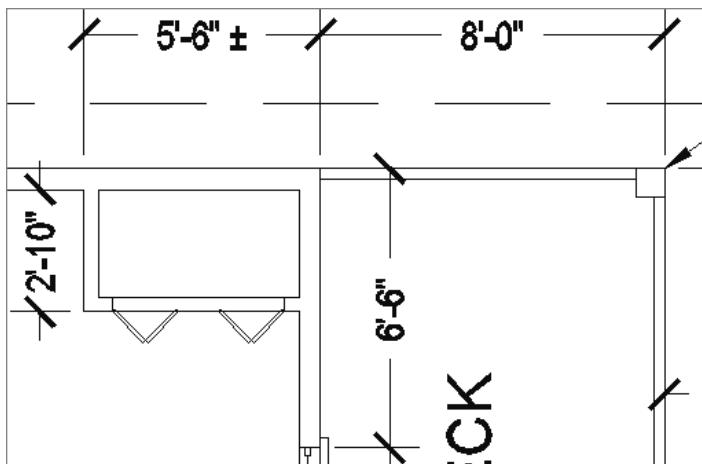

FIGURE 12.62 The new view of the upper-right floor plan and its dimensions
1. Zoom and pan to a view of the upper portion of the front deck so that the horizontal dimensions above the floor plan are visible (see Figure 12.62).